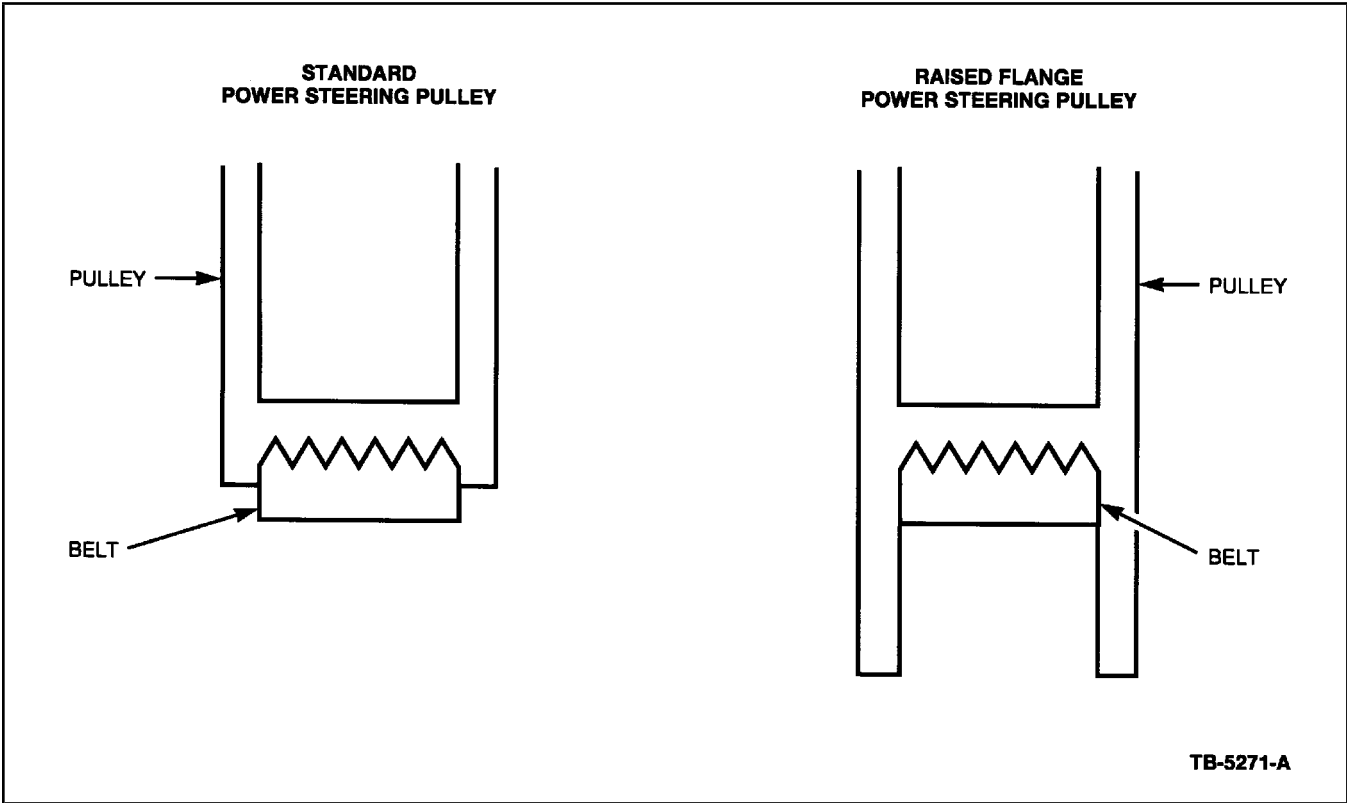

Figure 3 - Article 98-20-18
3. Verify that the vehicle has the new power steering pulley installed (Figure 3). If raised flange pulley is not installed, remove and discard the power steering pulley. Install new Power Steering Pulley (F7ZZ-3A733-AA).